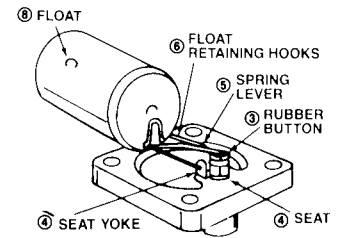

FIG. 2
4. The spring lever and button assembly is removed by pulling the outer wires of the spring lever out of the holes in the seat yoke. (Items 5 & 8, Fig. 2) (See Fig. 1 Note). Next, remove the spring lever and button assembly from the float by pulling it through the retaining hooks. (Item 6, Fig. 1 or 2).